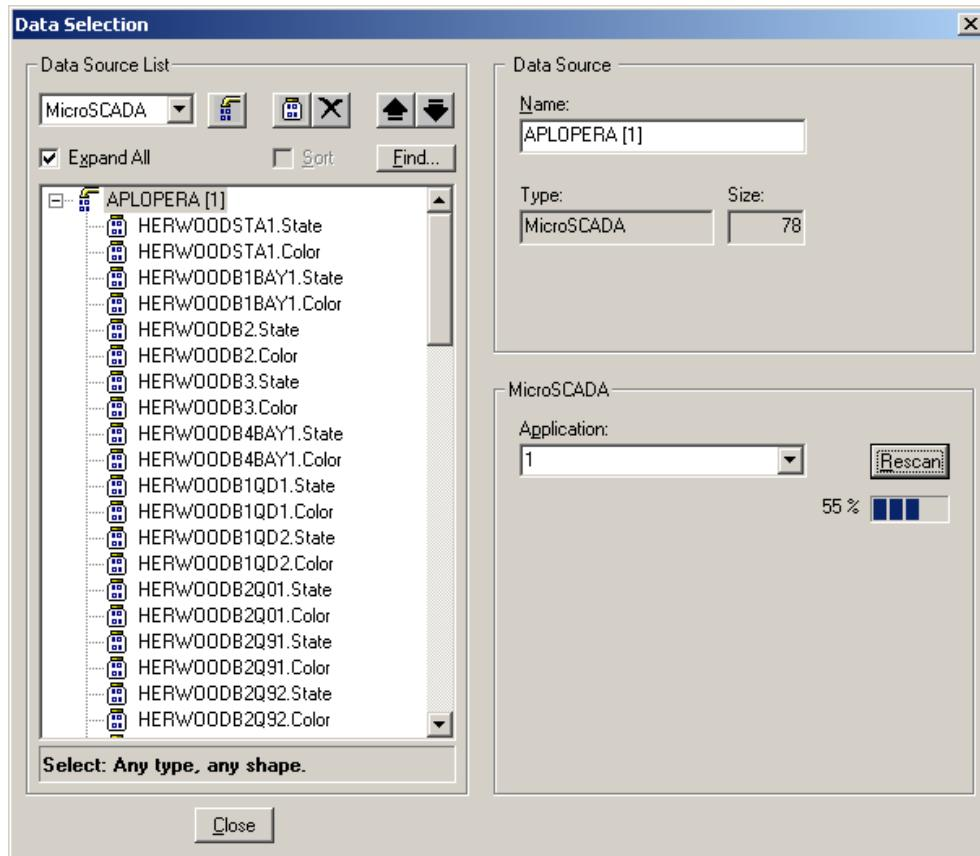

Figure 107: Rescanning configuration and updating and saving index configurations
2. Select the appropriate data source on the left pane. See Figure 107.
3. Click **Rescan** in the Data Source Settings field to scan the configuration and to update and save the index configurations to the display, see Figure 107.